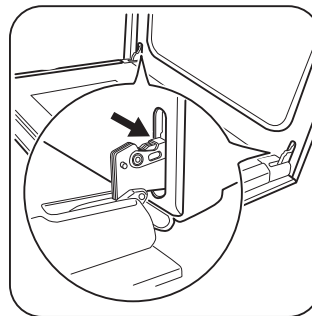

Figure 32: Door hinge locations
1. Open the door fully, horizontal with the floor, and hold the two door hinges (Figure 32).
3. Fully open the oven door, horizontal with floor (Figure 32).